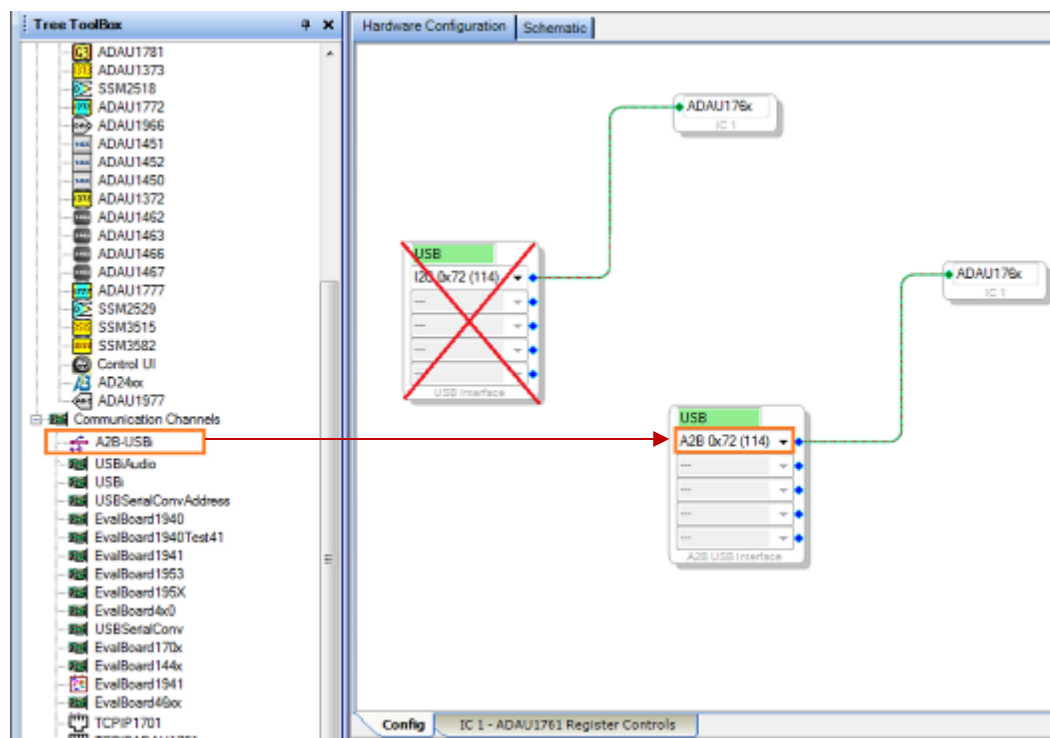

Figure 64: Connecting SigmaDSP to A2B-USBi channel
5. Replace the USBi communication channel with an A2B-USBi channel in the HW Tab as shown in Figure 64. Note down the I2C address in the USBi which is currently connected to the SigmaDSP IC before replacing.